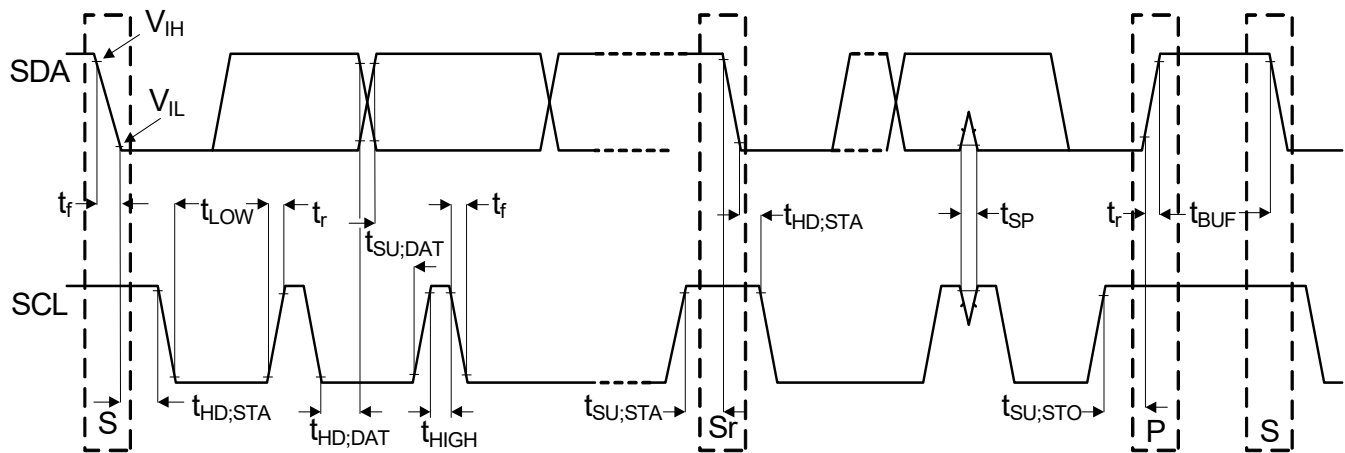

Figure 1. I2C Timing Definitions
4. Refer to Figure 1 for I2C timing definitions.